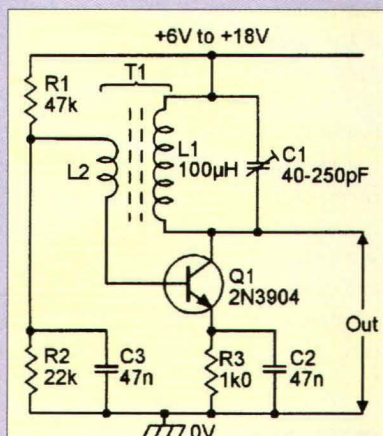
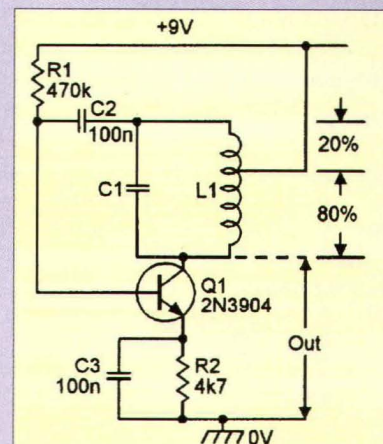
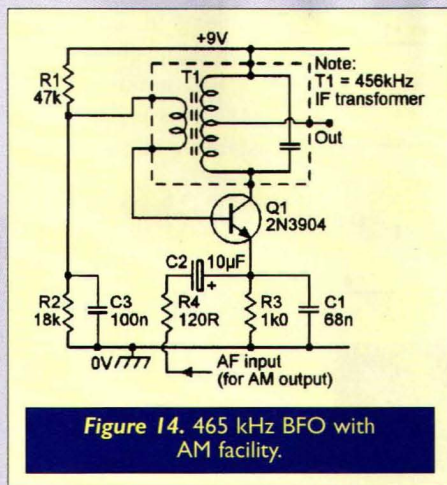

Figure 7. Tuned collector feedback oscillator.
Figure 8. Basic Hartley oscillator.
Figure 14. 465 kHz BFO with AM facility.
The simplest L-C transistor oscillator is the tuned collector feedback type shown in Figure 7. Q1 is wired as a common-emitter amplifier, with base bias provided via R1-R2 and with emitter resistor R3 AC-decoupled via C2. L1-C1 forms the tuned collector circuit, and collector-to-base feedback is provided via L2, which is inductively coupled to L1 and provides a transformer action. By selecting the phase of this feedback signal, the circuit can be made to give zero loop phase shift at the tuned frequency, so that it oscillates if the loop gain (determined by the turns ratio of T1) is greater than unity.
A feature of any L-C tuned circuit is that the phase relationship between its energizing current and induced voltage varies from -90° to $+90^\circ$, and is zero at a center frequency given by $f = 1/(2 LC)$. Thus, the Figure 7 circuit gives zero overall phase shift, and oscillates at, this center frequency. With the component values shown, the frequency can be varied from 1 MHz to 2 MHz via C1. This basic circuit can be designed to operate at frequencies ranging from a few tens of Hz by using a laminated iron-cored transformer, up to tens or hundreds of MHz using RF techniques.
Figure 8 shows a simple variation of the Figure 7 design — the Hartley oscillator. Its L1 collector load is tapped about 20% down from its top, and the positive supply rail is connected to this point; L1 thus gives an auto-transformer action, in which the signal voltage at the top of L1 is 180° out of phase with that at its low (Q1 collector) end. The signal from the top of the coil is fed to Q1's base via C2, and the circuit thus oscillates at a frequency set by the L-C values.
The L-C oscillator circuits of Figures 7 to 13 can easily be modified to give modulated (AM or FM) rather than continuous-wave (CW) outputs. Figure 14, for example, shows the Figure 7 circuit modified to act as a 456 kHz beat-frequency oscillator (BFO) with an amplitude-modulation (AM) facility. A standard 465 kHz transistor IF transformer (T1) is used as the L-C tuned circuit, and an external AF signal can be fed to Q1's emitter via C2, thus effectively modulating Q1's supply voltage and thereby amplitude-